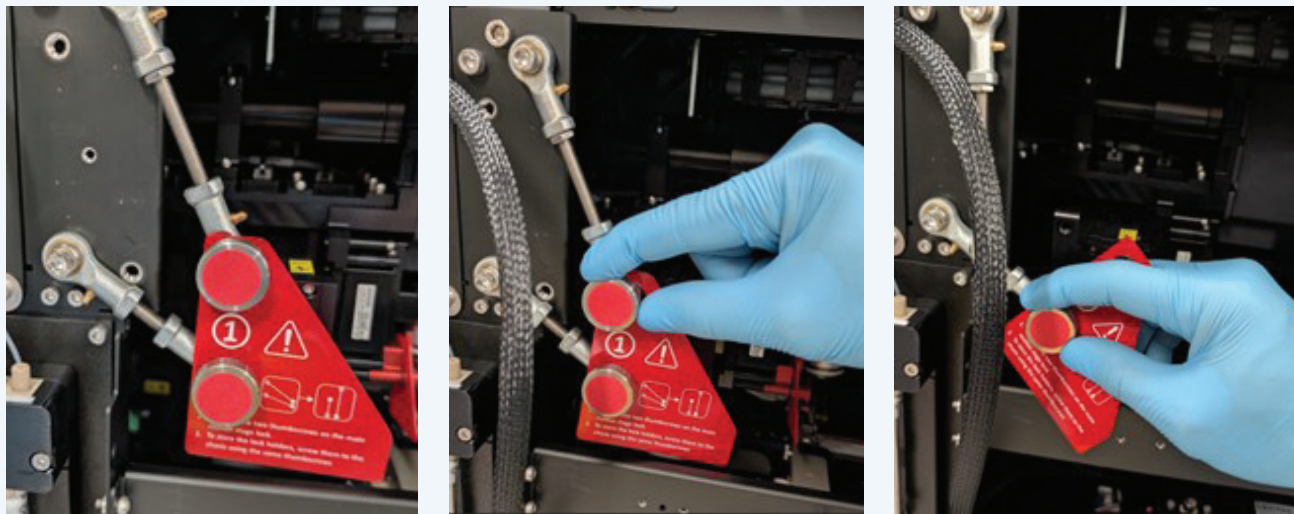

Figure 8. LeviCell EOS main motion stage safety lock.
- a. Remove the two thumbscrews on the motion stage lock as shown in Figure 8.